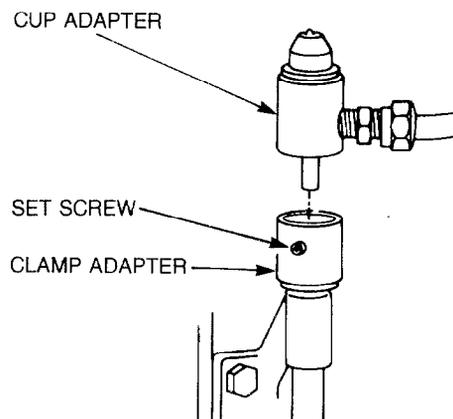

Figure 88 — Cup Adapter to Clamp Adapter — Installation
- ac. Install the cup adapter into the spray tester clamp adapter (see Fig. 88) and secure in position with the set screw.